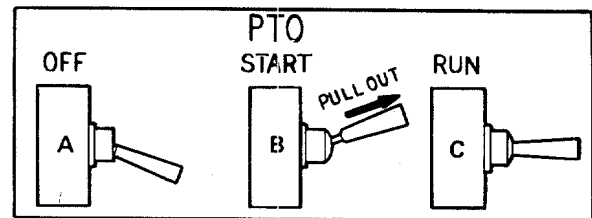

Figure 20
2. Flip the toggle switch to the "RUN" position. (See Figure 20.)
5. PTO switch must be in the "OFF" (A) position when shifting the tractor into reverse or the PTO